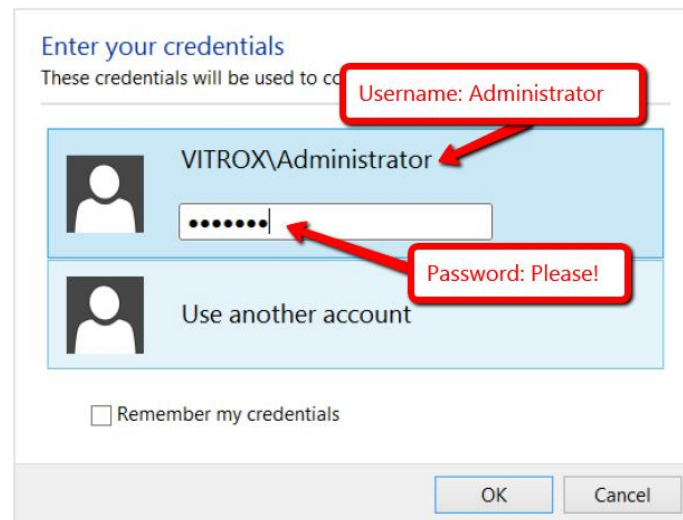

Figure 10 Remote Desktop
10. Remote desktop to the Atom PC using the following credentials as shown in Figure 10.